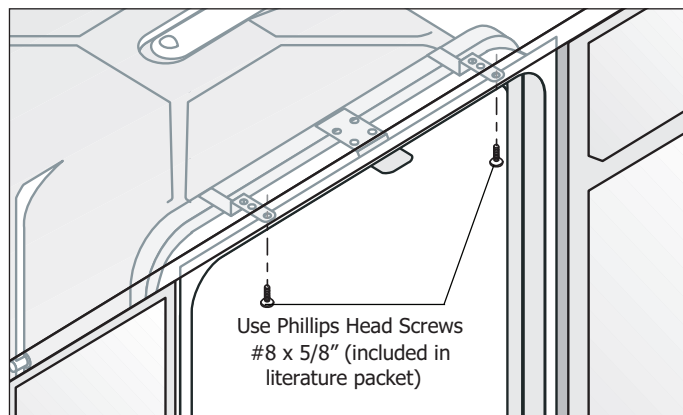

Figure 2-15.
5. Screw mounting brackets firmly to countertop using screws provided in literature packet. (See Figure 2-15)